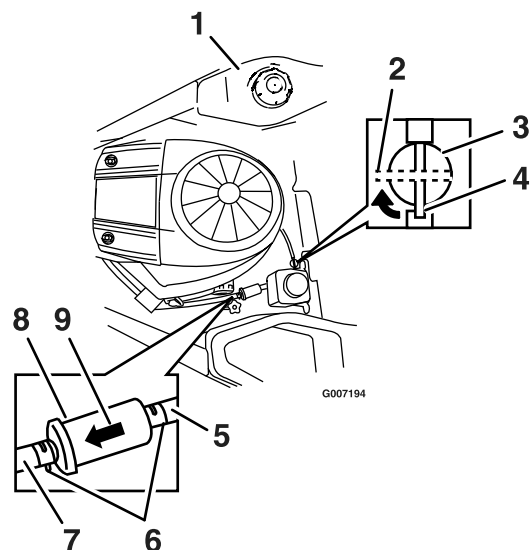

Figure 28
5. Squeeze the ends of the hose clamps together and slide them away from the filter (Figure 28).
7. Install a new filter with the flow direction arrow coming from the fuel tank and pointing to the engine. Move the hose clamps close to the filter (Figure 28) to secure it in place.